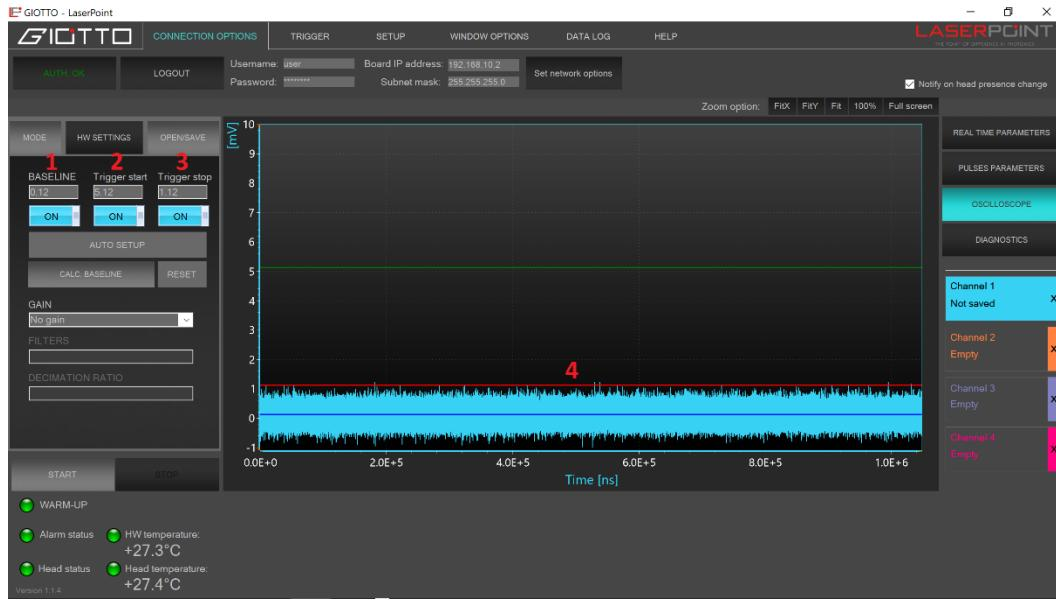

Figure 10
1. Background noise acquisition (**4, fig.10**), no laser impinging on HS sensor
2. Set manually Baseline, Trigger Start and Trigger Stop (**1, 2, 3 fig.10**),